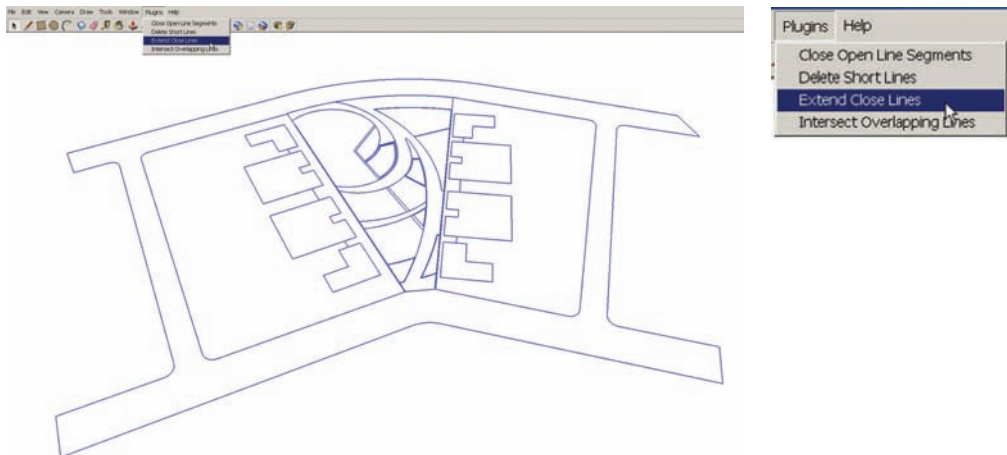
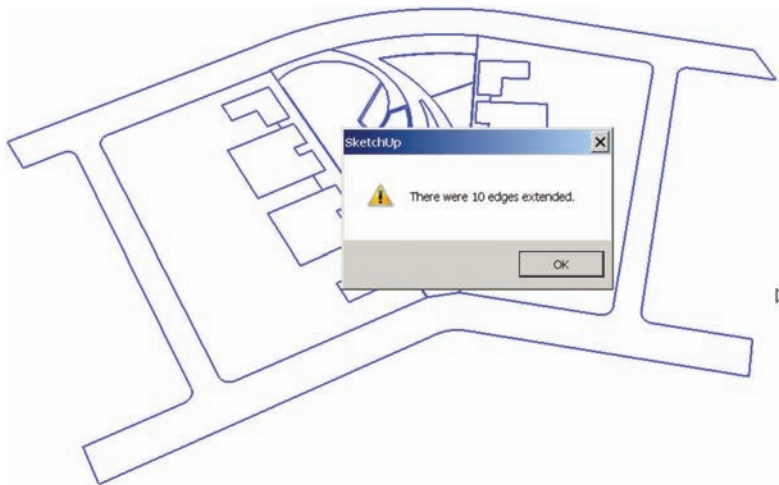

Fig. 18-22: Select the all the linework of the exploded flatwork edges. From the Plugins menu, select Extend Closed Lines.
Fig. 18-23: Select all the linework of the exploded flatwork edges. From the Plugins menu, select Extend Closed Lines.
1. Select all the edges. From the Plugins menu, select Extend Close Lines. A dialogue window will appear indicating how many edges were extended by the script. Save the file (Fig. 18-22, Fig. 18-23).